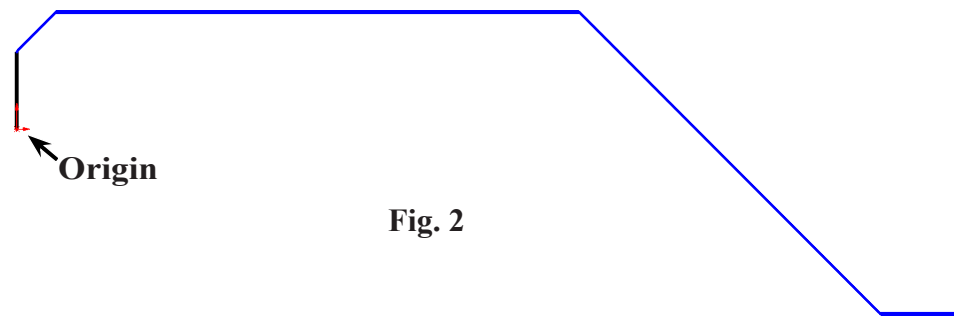

Fig. 2
Step 3. Click **Line**  (L) on the Sketch toolbar.
Step 4. Sketch a chain of 5 lines starting at the Origin , **Fig. 2**.